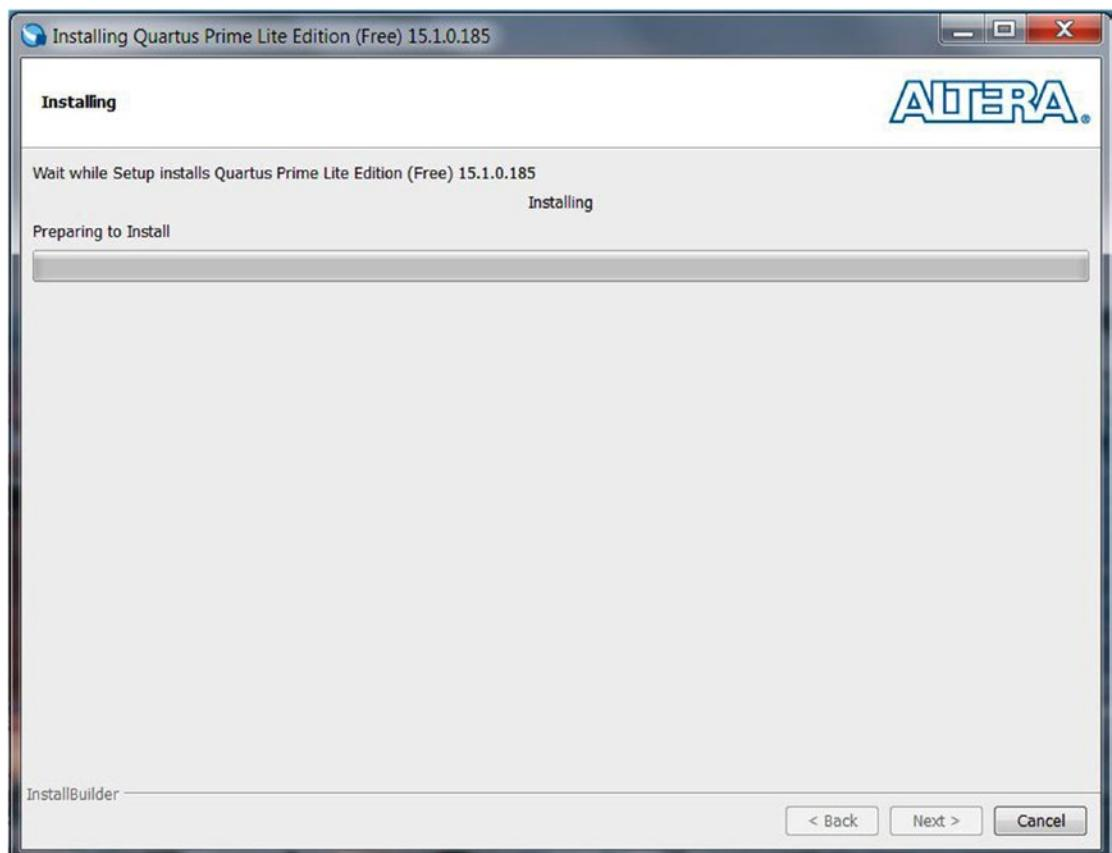
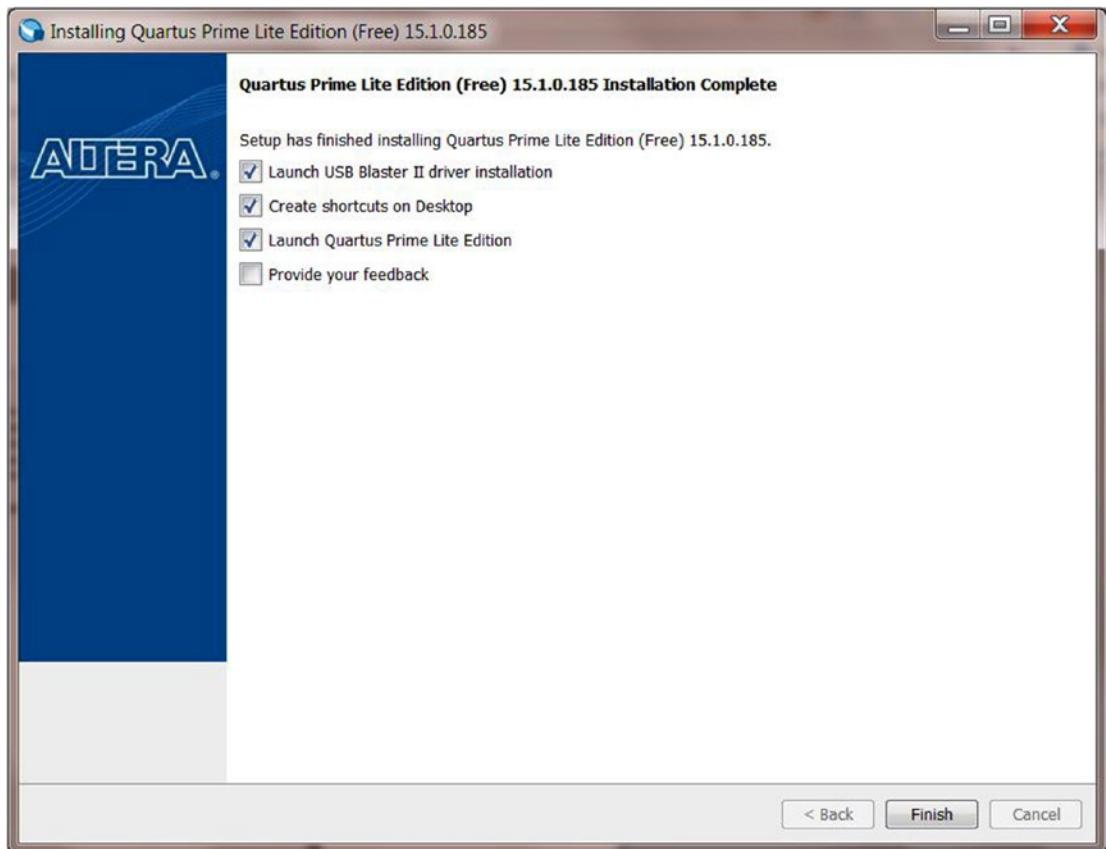

Figure 3-15. *Installing*
Figure 3-16. Quartus Prime Lite installation complete
6. This step just requires patience. You need to wait for your screen to change from Figure 3-15 to Figure 3-16. At the installation complete page, click **Finish** and you are only a few steps away from completing the install.